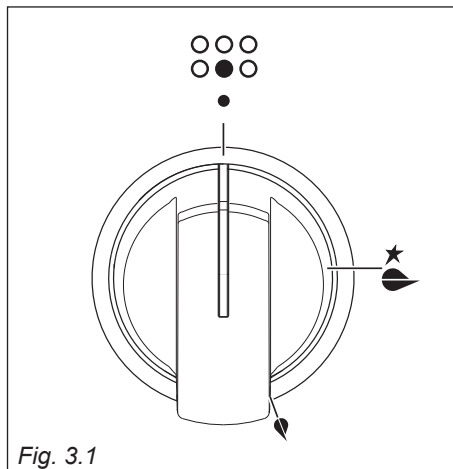
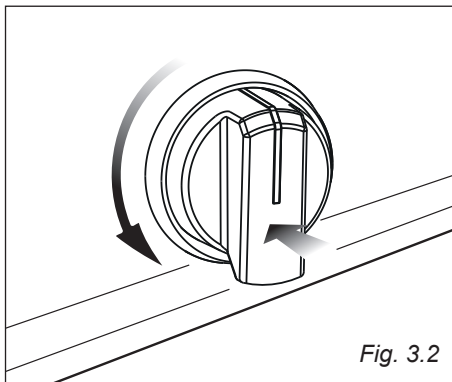

Fig. 3.1
Fig. 3.2
- Remove the screw securing the cover “A” on the rear of the cooker (fig. 3.1).
- Unscrew cable clamp “D” (fig. 3.2).
Gas flow to the burners is adjusted by turning the knobs (illustrated in figs 3.1) which control the safety valves.
1. Press in the corresponding knob and turn counter-clockwise (fig. 3.2) to the full flame position marked by the  symbol (fig. 3.1) and hold the knob in until the flame has been lit.